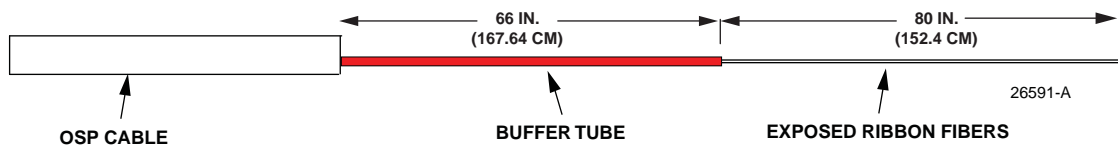

Figure 27. OSP Cable Breakout Dimensions
3. Break out the OSP cable corresponding to the dimensions given in Figure 27. Follow cable manufacturer's recommendations when stripping the sheath.